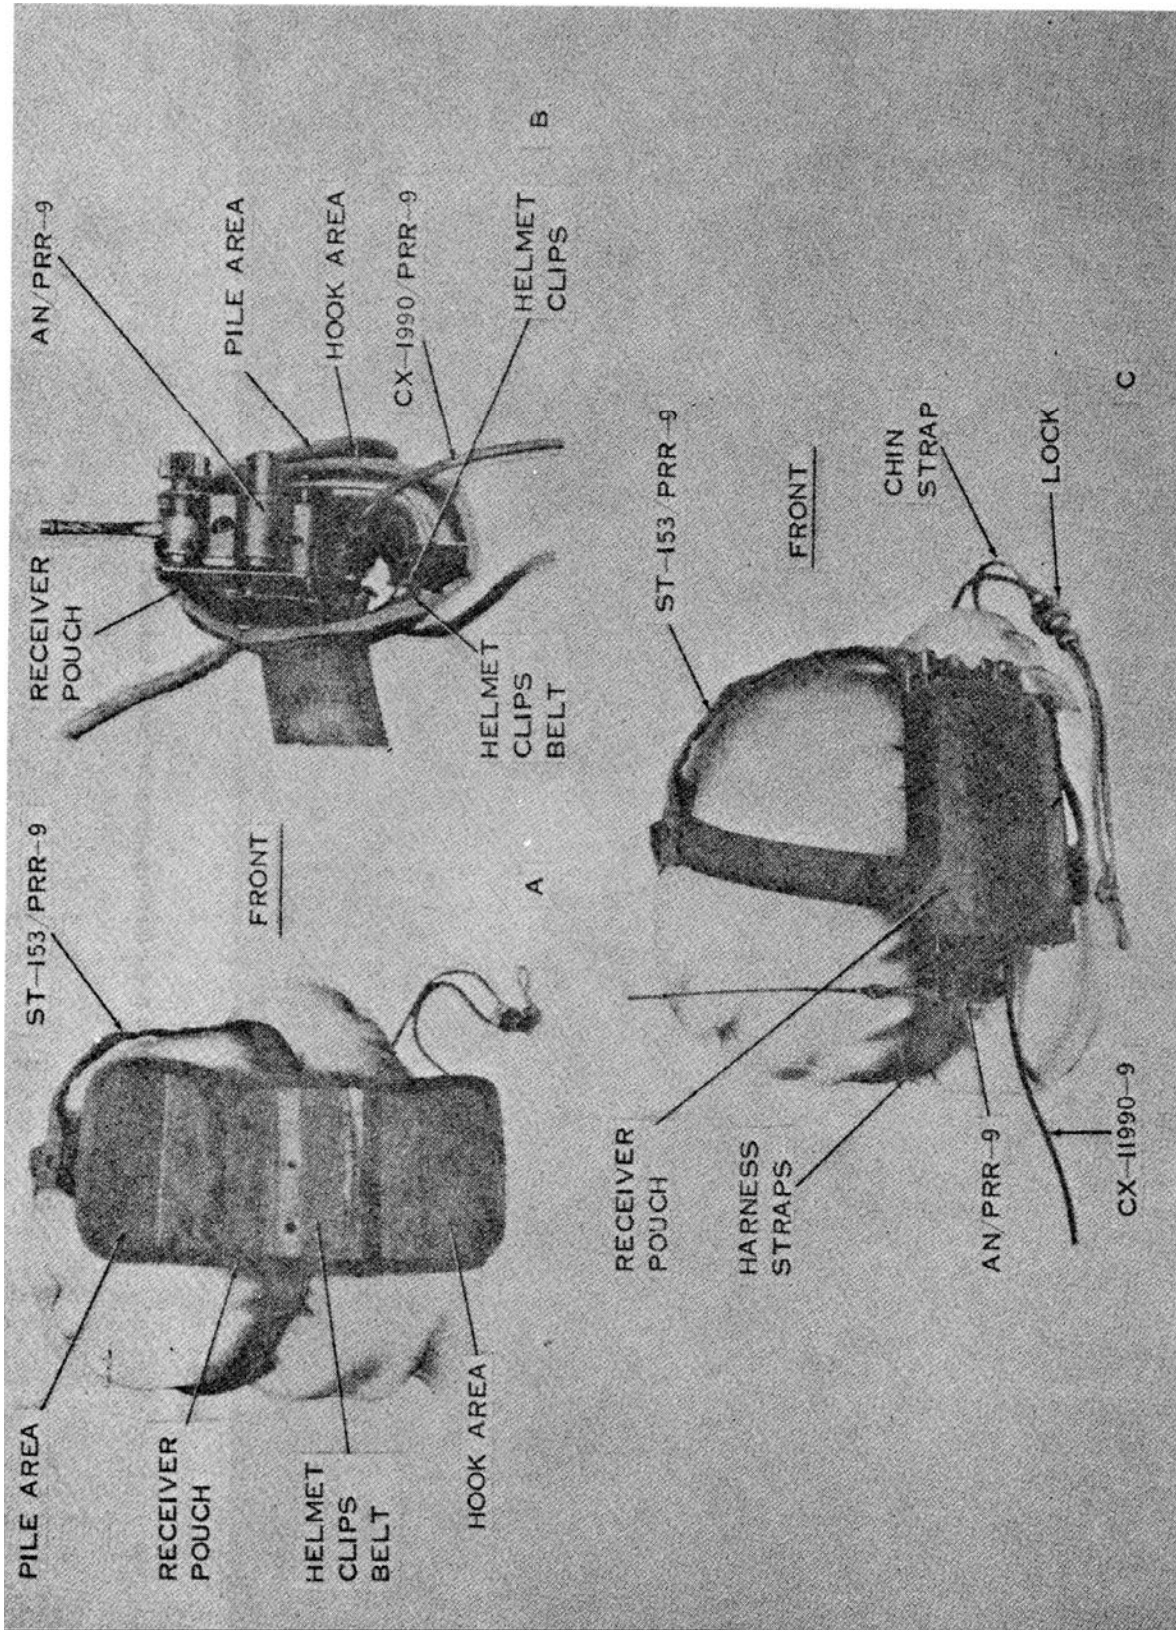

Figure 2-9. Receiver installation on ST-153/PRR-9 harness.
(1) With the CX-11991/PRT-4 transmitter battery extender cable, laced through the battery case in the correct direction, mate the transmitter socket connector with battery contact pins and firmly push in place.
(2) Mate the battery plug connector with the battery socket and firmly push the two together.
(3) Position the battery case for mounting to the transmitter case and secure in place with the clamps. The battery case becomes part of the transmitter antenna ground plane.
c. Receiver Head Harness (fig. 2-9).
(1) Connect the receiver, receiver battery extender cable, and battery (*a* above).
(2) Position the receiver, with the side that exposes the helmet clips, toward the open receiver pouch (A, fig. 2-9) and hook the receiver helmet clips through the openings under the helmet clips belt.
(3) Wrap the hook area of the receiver pouch around the receiver (B, fig. 2-9) and firmly hold in position until the pile area of the receiver pouch is brought down over the receiver and firmly pressed against the hook area. All areas of contact between the hook area and pile area should be firmly pressed together. The receiver is now securely fastened in the receiver pouch.
(4) Position the harness, with the receiver installed in the receiver pouch, over the helmet covering (C, fig. 2-9) or whatever external head covering is used, and secure the harness in place with the harness straps and the harness chin strap. The two harness straps are fastened by contacting the pile area of one strap against the hook area of the other and pressing the two firmly together. The chin strap is secured in place by holding the loose end of the chain strap in one hand and pushing the lock in the direction of the chin.
(5) Unfasten the pile and hook areas of contact by peeling back one area from the other, starting at an edge of the contact area.